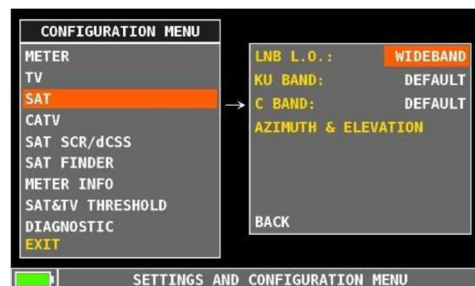

Fig.7 Wide band setup in the configuration menu.
- Press the "Volume" key to access the configuration menu and select **SAT**, set the "LNB L.O." to "**WIDE BAND**", (ref. fig. 7).